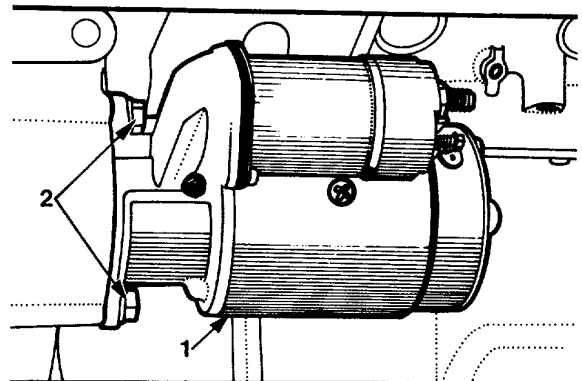

Fig. 26 Starting Motor Removal
22. Remove starting motor bolts and lockwashers, Figure 26. Remove starting motor.